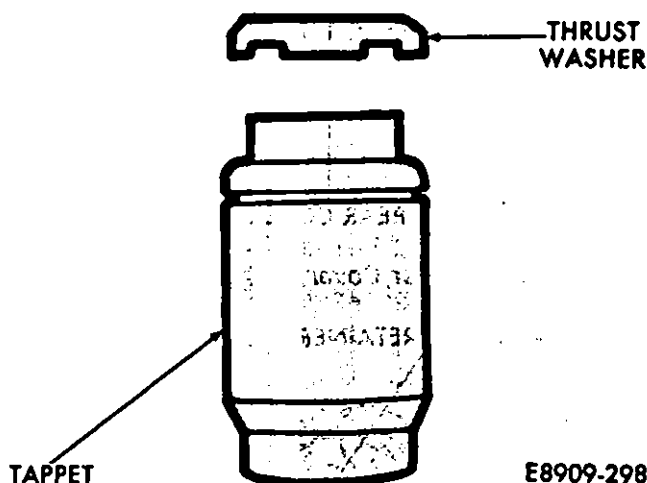
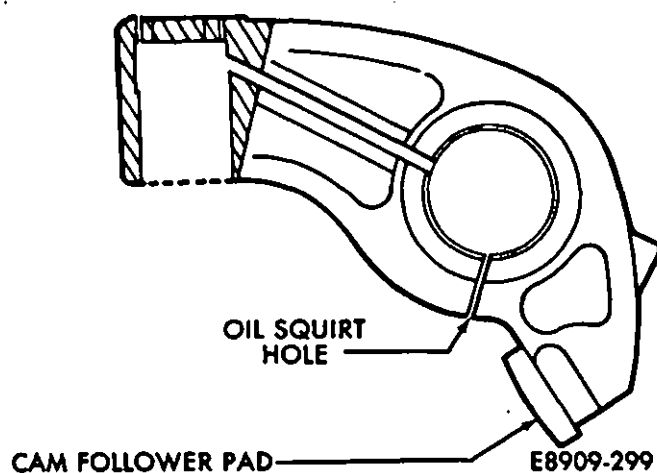

Fig. 10—Thrust Washer
Fig. 11—Oil Squirt Hole/Cam Follower Pad
- (3) Remove the thrust washer (Fig. 10).
- (4) Use a straight edge to check the bottom of the tappet for a crown. If the tappet is worn flat or dished, replace it.
- (5) Check the oil squirt hole in the rocker arm for blockage (Fig. 11). Use compressed air to clean out any blockage.
- (6) Check the cam follower pad of the rocker arm for wear (Fig. 11). If the pad is flat and does not have a crown, replace the rocker arm and check the accompanying camshaft lobe for wear.
- (7) Clean the rocker arms. Use compressed air